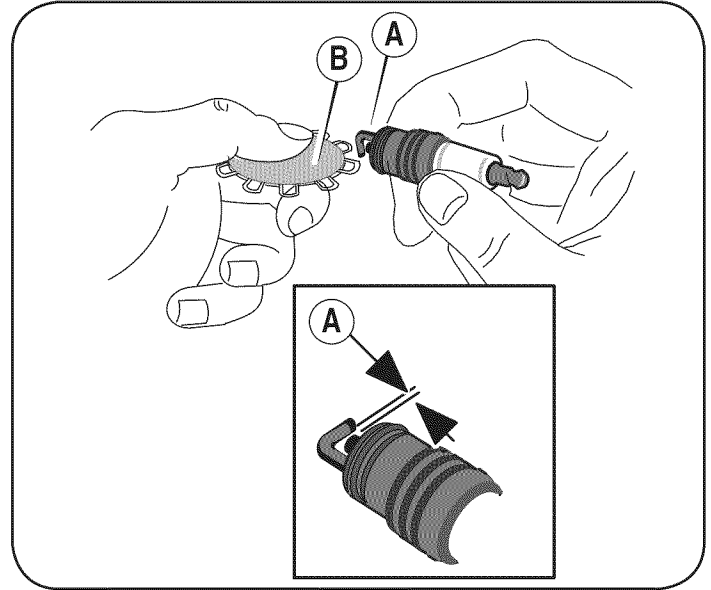

Figure 14
3. Check the gap (A) with a wire gauge (B). See Figure 14. Spark plug gap should be 0.020 in (0.51 mm). If necessary, reset the gap.